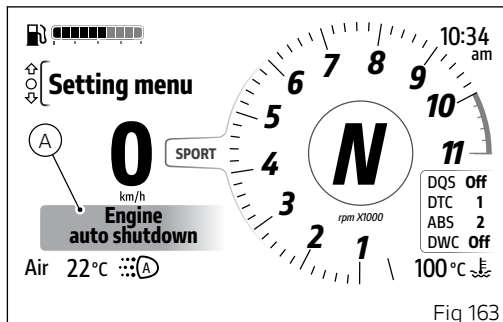

Fig 163
- “Engine auto shutdown” (A, Fig 163)